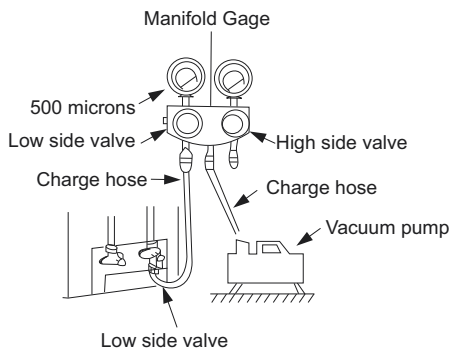

Fig. 16 – Manifold
3. Fully open the low side of manifold gage. (See Fig. 16)